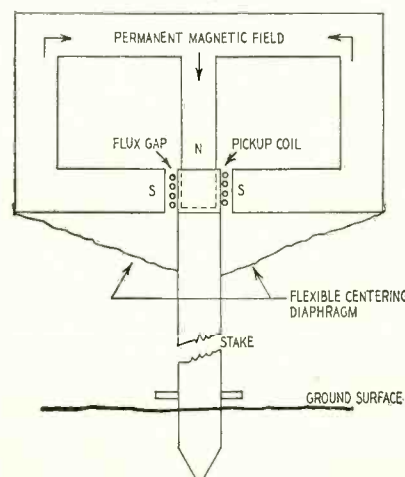
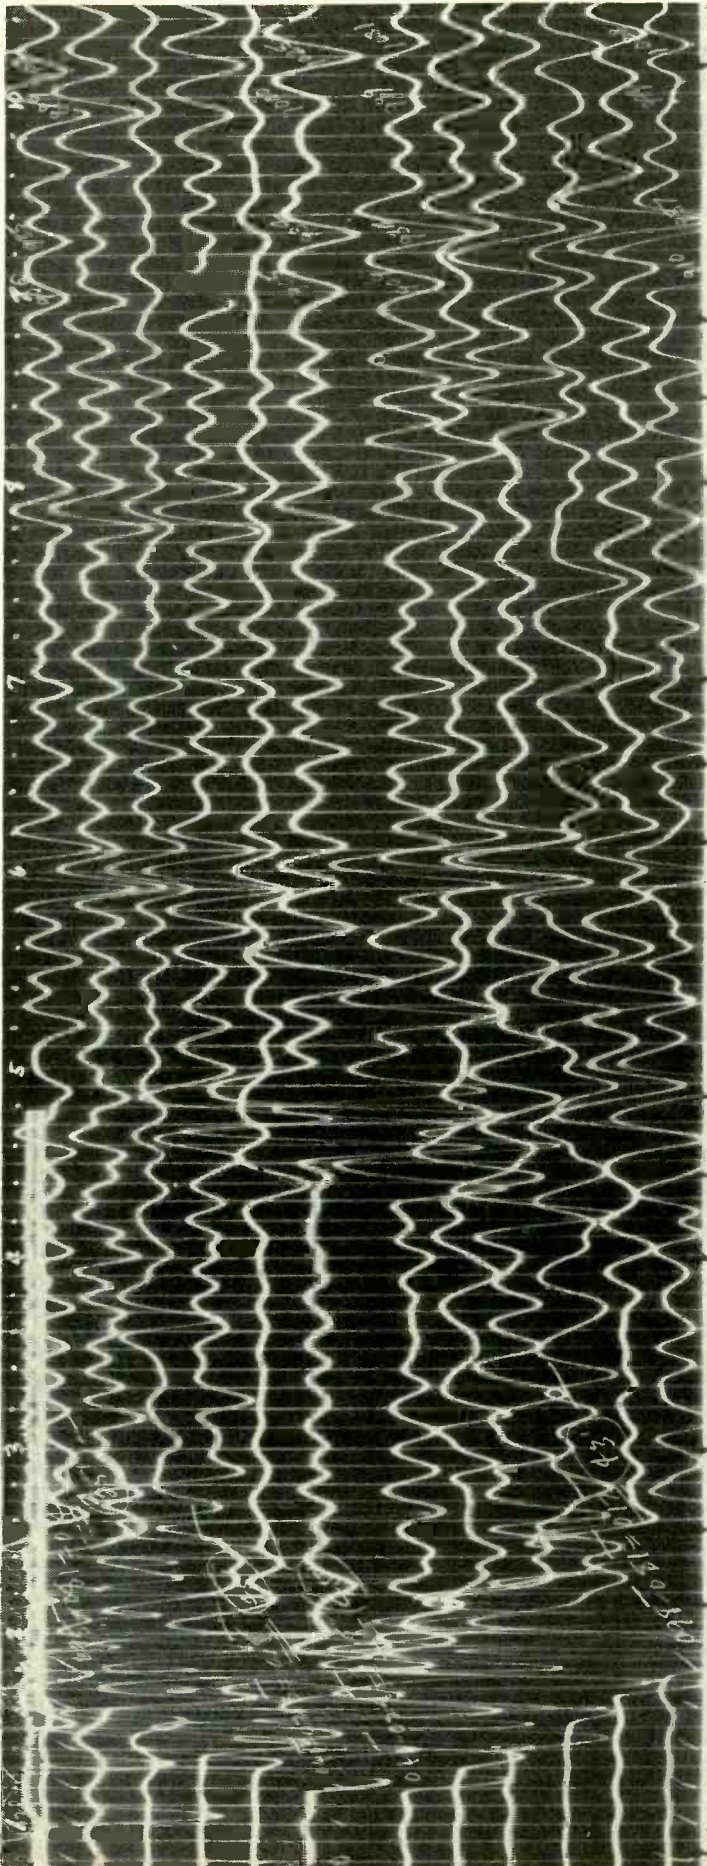

Fig. 1—Diagram of geophone pickup.
Fig. 2—Typical seismic recording.
**S**EISMIC WAVE (artificial earthquake) exploration for new underground oil deposits is a little-known field to many electronic technicians. However, many skilled technical workers manufacture, operate and service seismic electronic equipment all over the world. Excepting its peculiar language, this apparatus is easier to understand than an ordinary radio set. For example, a "geophone" (Fig. 1) acts like and is made similar to a dynamic phonograph pickup. Twelve such geophones pick up ground vibrations and feed 12 amplifiers, each of which drives recording elements to produce the 12 separate traces of Fig. 2 (an actual seismogram).
The geophone is exactly like a dynamic phonograph pickup except that the needle is replaced by a "spike" (Fig. 1) to be pushed into the ground. The seismic energy vibrates the spike and moves the pickup coil in the magnetic field and thereby develops a voltage corresponding to movement of the ground. This forms the input signal to the amplifier.